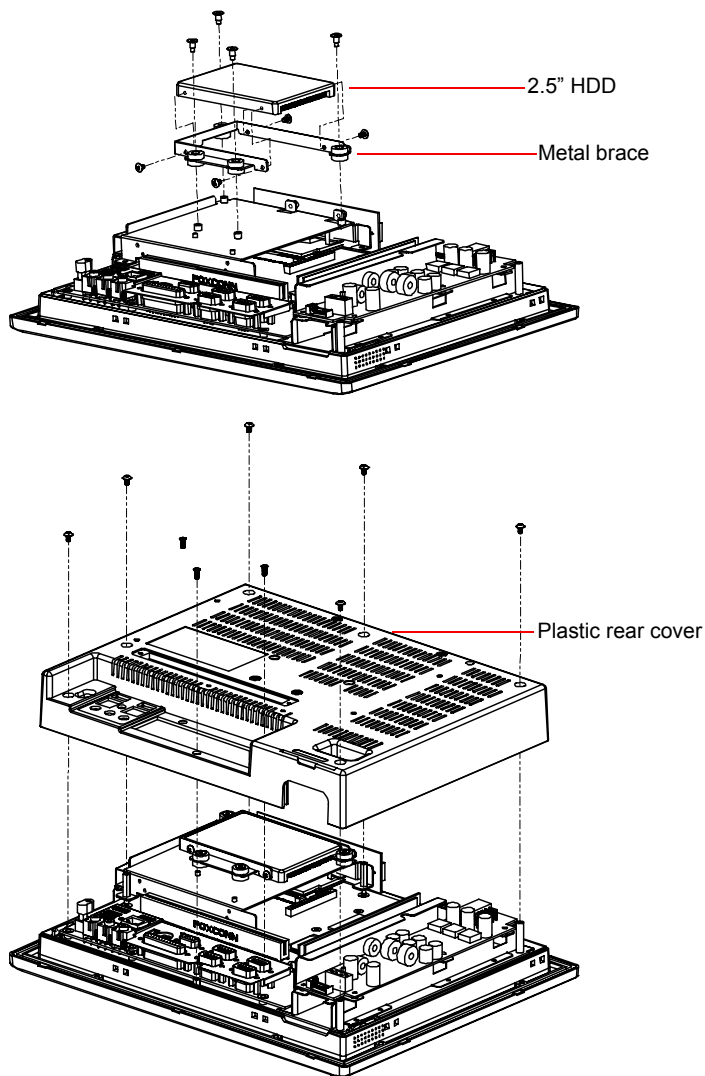

Figure 3.1: Installing primary 2.5" HDD
2. There is a metal brace which holds the HDD to the upper left-hand side of the metal shielding case. (See Fig. 3-1.)